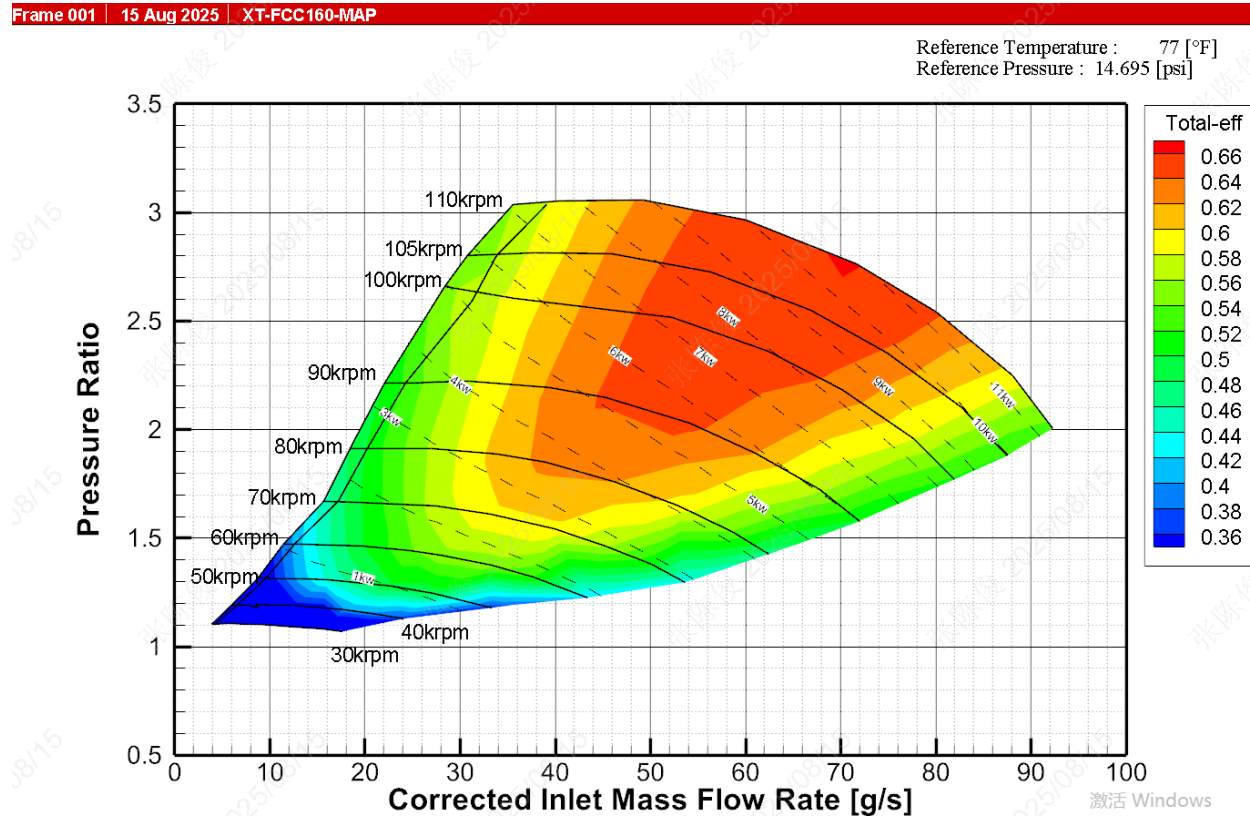

Figure 1 Air compressor map curve of FCC160-LV with customised edition
2.3.1.1 Air compressor map curve of FCC160-LV with customised edition is shown in Figure 1